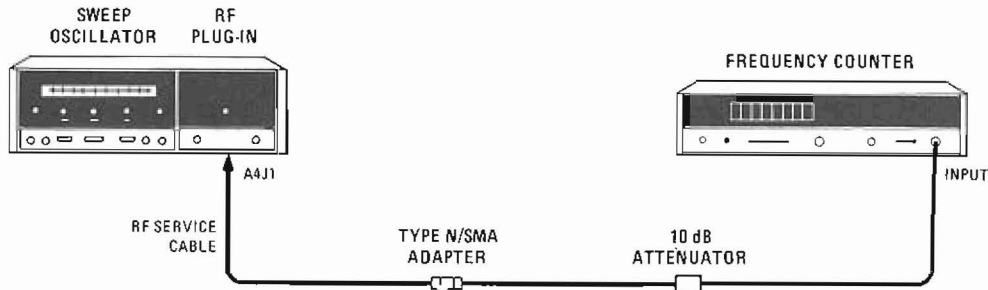

Figure 5-2. A4 Cavity Oscillator Frequency Adjustment Test Setup
- a. Connect equipment as shown in Figure 5-2 as follows: Disconnect cable W2 from connector A4J1 on A4 cavity oscillator. Connect frequency counter to A4J1 through a 10 dB attenuator, a Type-N to SMA adapter, and an RF service cable.